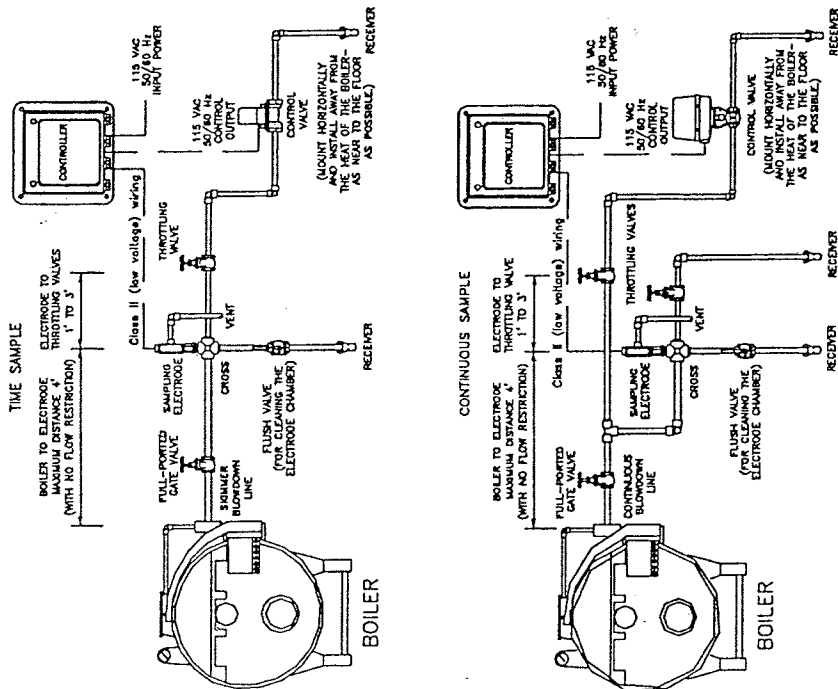

Fig. 1, Typical Installation Diagram
The ABC Series Controllers are designed for ease of installation. Select a mounting location convenient to electrical and plumbing connections and easily accessible by the operator for cleaning and maintenance. The enclosure is corrosion resistant and will stand up to most industrial environments. Be sure unit is free from vapors and liquid spills (refer to Fig. 1, Typical Installation Diagram). Installation should comply with all national, state, and local codes.
Direction of flow should be inline with the arrow on the probe assembly. Take time to review Fig. 1, Typical Installation Diagram, and note locations of hand valves, etc. for proper operation and maintenance of all components in the system loop. The throttling valve must be adjusted so that water flows across the probe, not steam.
- 2) Remove pressure by shutting hand valves on both sides of the electrode assembly (refer to Fig. 1, Typical Installation Diagram, pg. 4).